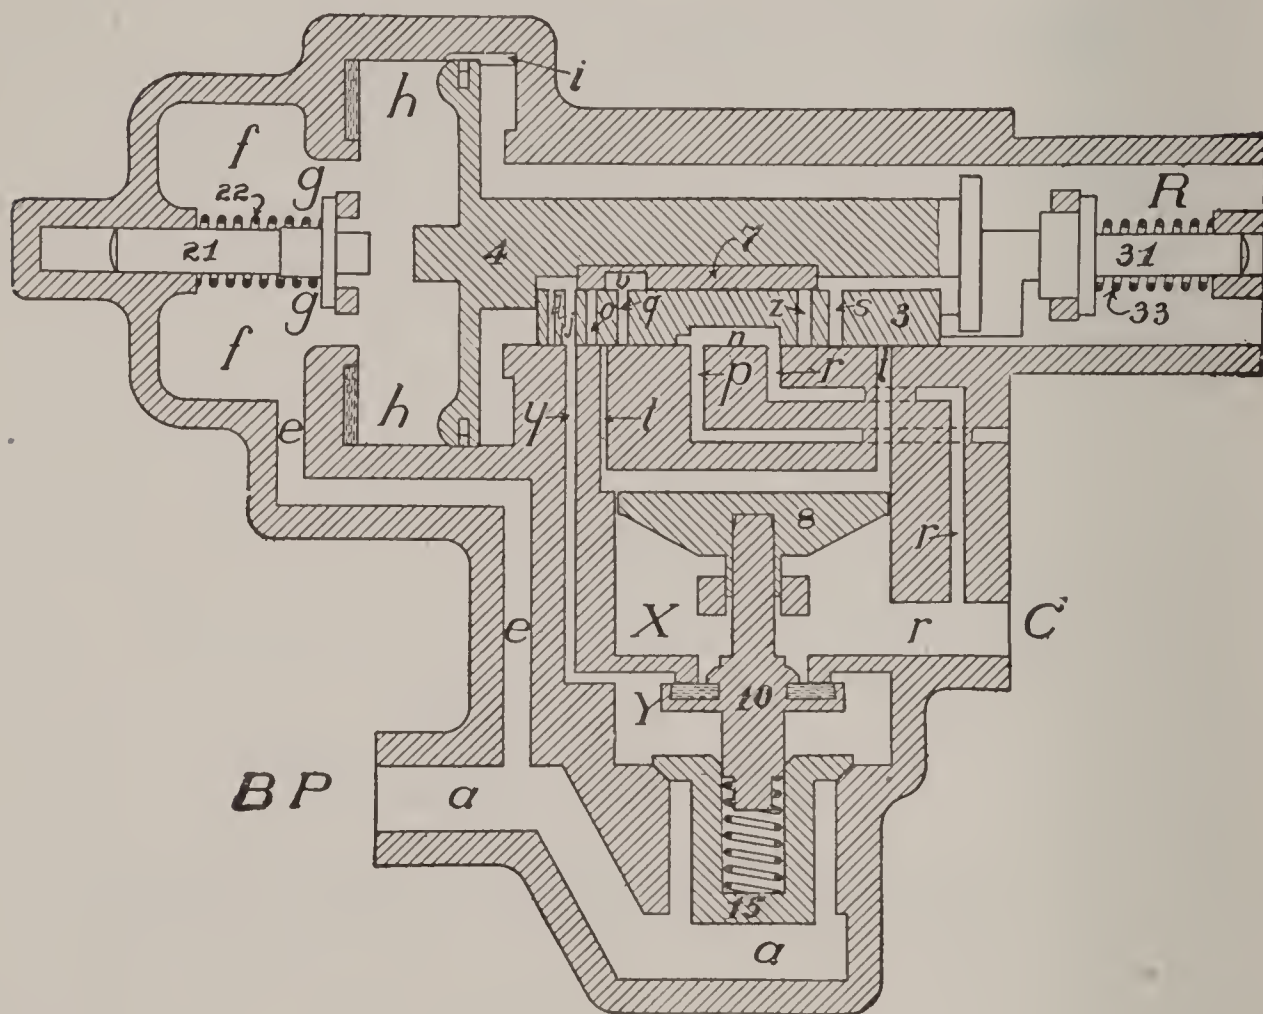

Fig. 8.
and would not be seen when looking at the device from the point of view taken. Some examples of this are shown in Fig. 8.
**Ports.** Port *t* connects the slide-valve seat with the chamber above emergency piston 8.. Port *p* is the exhaust port to the atmosphere. Port *j* in the slide-valve begins at the face as shown by the top view (Fig. 8) and passes around other ports in the valve to a smaller opening in the top. (Port *j* does not exist in the K-1 triple valve, as will be explained later.) Port *o* is similarly arranged, except that the openings in the top
**Full Release and Charging Position.** Fig. 8 is a diagrammatic view of the triple valve in this position. Air from the brake pipe flows through passage *a* to *c* and cylinder cap *f*, and ports *g* to chamber *h*; thence through feed groove *i*, now open, to chamber R above the slide-valve, which is always in free communication with the auxiliary reservoir. The feed groove is of the same dimension as that of the old standard H-1 triple valve, which is designated to properly charge the auxiliary reservoir of an eight-inch brake cylinder and prevent any appreciable amount of air from feeding back into the brake pipe from the auxiliary reservoir during an application. For this reason the feed groove of the K-2 triple valve is made the same size as the K-1, so that it is necessary in the K-2 triple to increase the charging port area, through which the air can feed into the auxiliary reservoir sufficiently to enable it to handle the greater volume of the auxiliary reservoir of a ten-inch brake cylinder. In order to do this, the small port *j* is added
example, when the car is near the rear of the train, the triple valve parts will remain in this position, as shown in Fig. 8, the brakes will release and the auxiliary reservoirs recharge as described under "Full Release and Charging." If, however, the triple valve is near the head of the train and the brake pipe pres-
As the auxiliary reservoir pressure rises and the pressures on the two sides of piston 4 become nearly equal, retarding device spring 31 forces the piston, slide-valve, graduating valve and retarding device stem back to the full release position, shown in Fig 8, when the remainder of the release and recharging will take place as previously described under "Full Release and Charging."